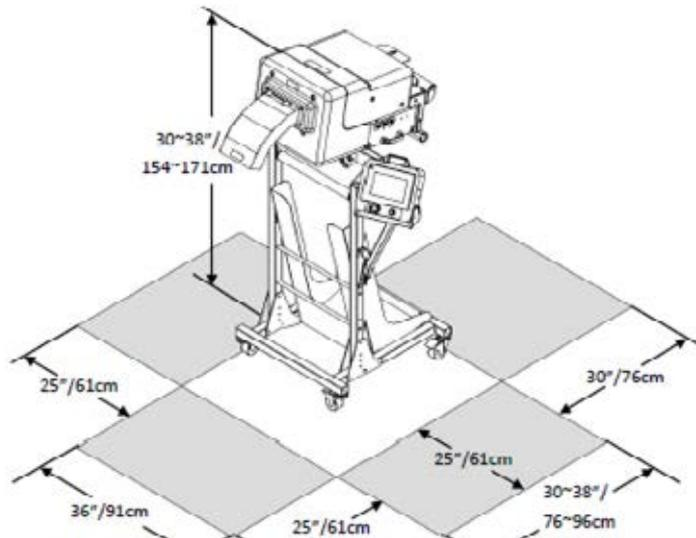

Figure 5 Floor Stand Set-Up
1. Floor Stand (refer to Figure 5).